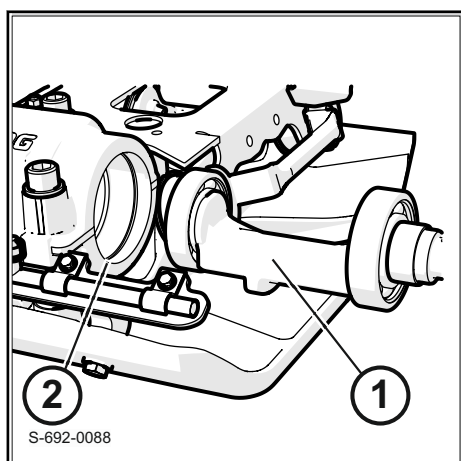

Fig. 89
3. Insert the pre-assembled exciter shaft (1) ↗ Fig. 89 into the exciter housing (2) and position the bearing.